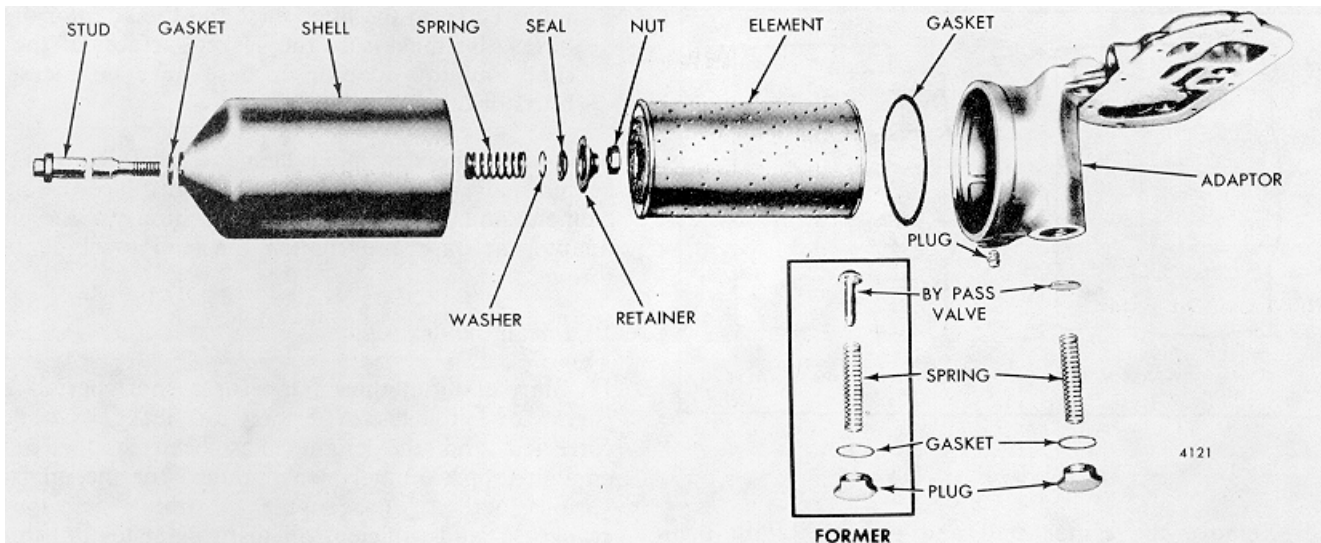

Fig. 3. Full-Flow Oil Filter Details and Relative Location of Parts
Replace the element in either the full-flow or by-pass type oil filter assembly (Figs. 3 and 4) as follows:
5. Examine the element retainer seal (Fig. 3) for hardening or cracks. If necessary, replace the seal.